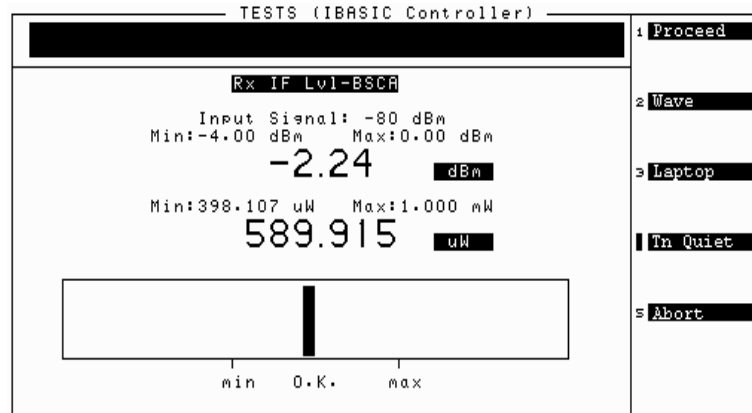

Figure 22 Power Meter Screen for RX IF Level - BSCA Measurement
1. If you set the Use Power Meter Screen When parameter to None or if you press k1 (Proceed) on the power meter screen (see figure 22 on page 83), the Test Set will show the test result table on the display when the testing is complete. If the measurement's results fall outside the specified limits, the measurement will fail. A failure is indicated by an F in the P/F column.